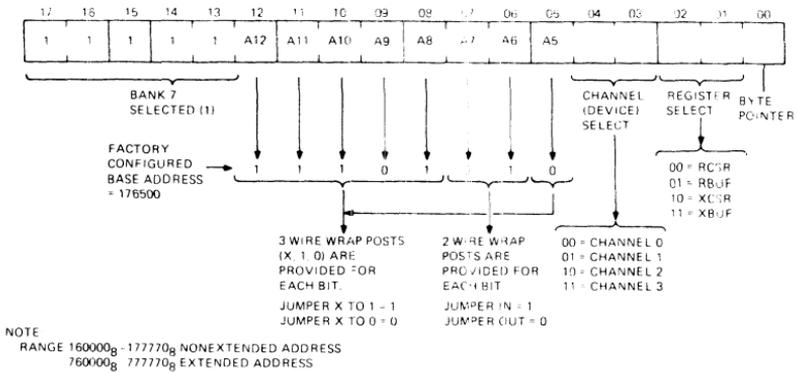

Figure 2 Channel 0 RCSR Address Format
Wire-wrap jumpers are configured to establish a "base" address (BA) for the module. This base address is the channel 0 RCSR address. The device address format is shown in Figure 2. The remaining device addresses follow through 16 (total) contiguous word addresses; however, it is possible to independently dedicate the last four addresses (channel 3) to a console device. When configured for console device operation, the channel's device register addresses will be 177560-177566. For console operation, the board's base address must be one of the following: